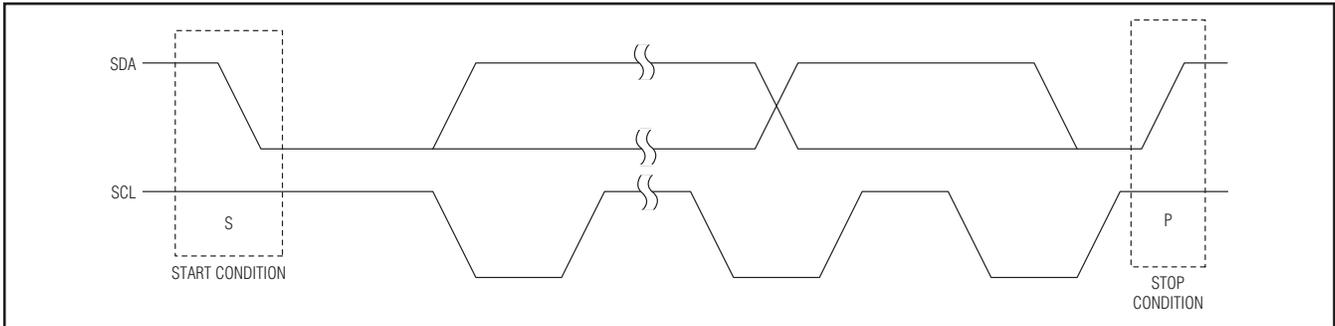
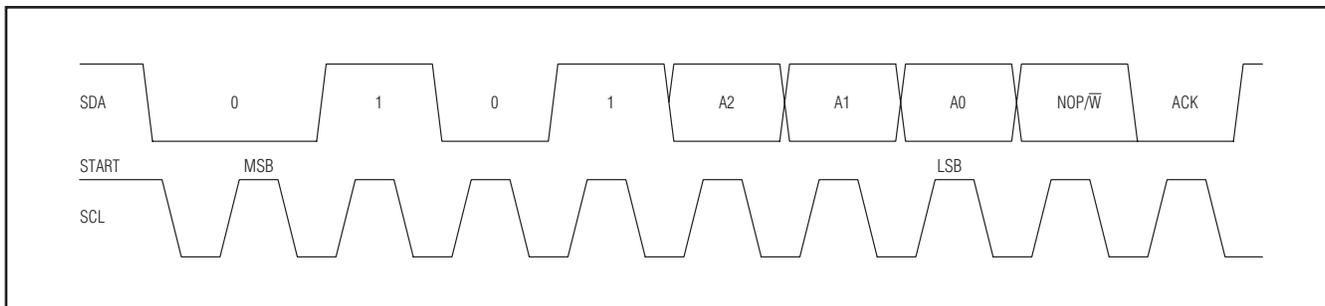

Figure 3. START and STOP Conditions
Figure 6. Slave Address
Each transmission consists of a START (S) condition (Figure 3) sent by a master, followed by the MAX5387 7-bit slave address plus the NOP/W bit (Figure 6), 1 command byte and 1 data byte, and finally a STOP (P) condition (Figure 3).
The MAX5387 includes a 7-bit slave address (Figure 6). The 8th bit following the 7th bit of the slave address is the NOP/ \overline{W} bit. Set the NOP/ \overline{W} bit low for a write command and high for a no-operation command. The device does not support readback.